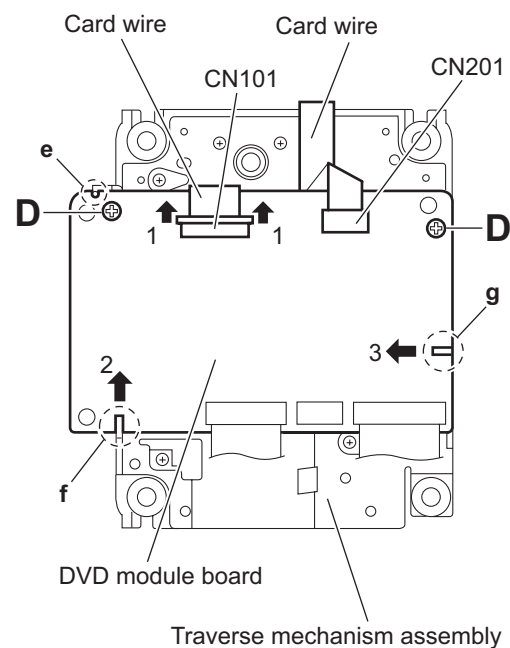

Fig.5
- (2) From the bottom side of the traverse mechanism assembly, release the lock of the connector **CN101** on the DVD module board in the direction of the arrow 1 and disconnect the card wire. (See Fig.5.)
- (3) Disconnect the card wire from the connector **CN201** on the DVD module board. (See Fig.5.)
- (4) Remove the two screws **D** attaching the DVD module board. (See Fig.5.)
- (5) Remove the DVD module board from the projection **e** in an upward direction and remove the engagement section **g** in the direction 3 while removing the engagement section **f** in the direction of the arrow 2. (See Fig.5.)